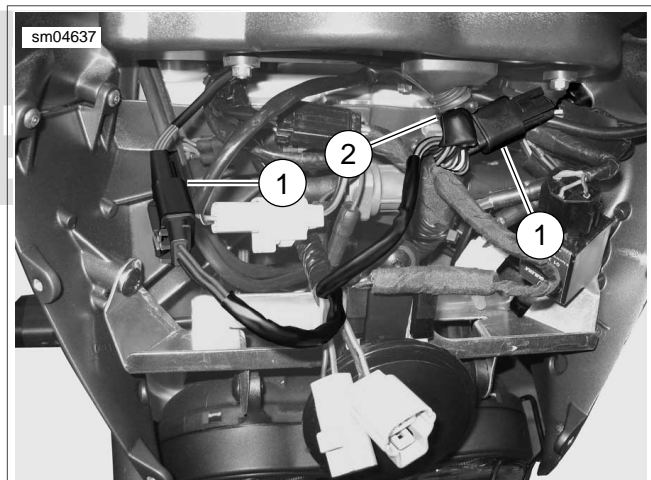

Figure 6-37. Heated Hand Grip Connections and Cable Strap
7. See Figure 6-37. On the left side, install a cable strap securing the hand grip wire to the instrument module connector under the left hand side of the instrument cluster.